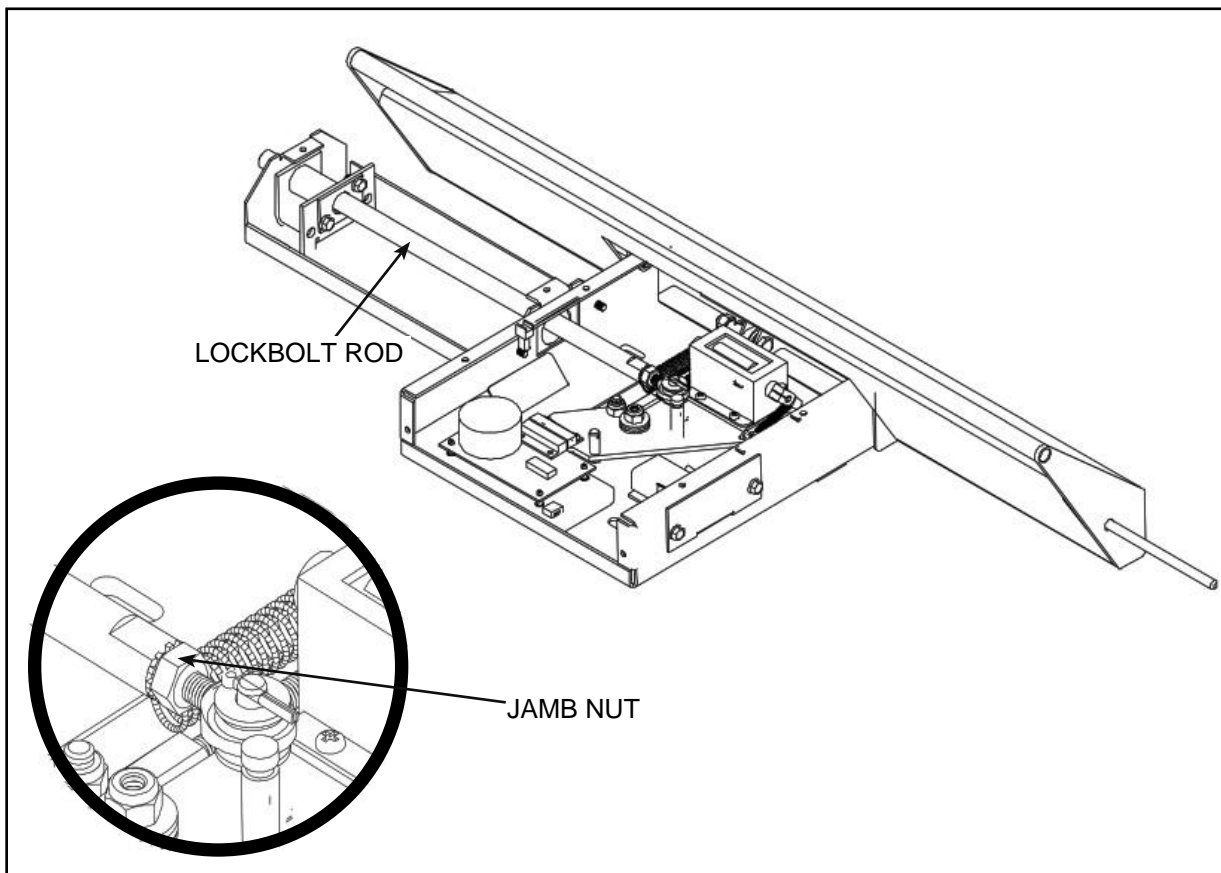

FIGURE 5
7. Keeping the door closed, check the distance between the end of the lock bolt and the door jamb stop. To ensure the maximum extension into the latch (installed later), the end of the lock bolt should just clear the jamb stop - the clearance should be approximately 1/16" but no more than 1/8". If necessary, adjust the extension of the lock bolt rod by loosening the jamb nut at the opposite end of the lock bolt rod - inside the Sur-Lock™ housing - and rotate the lock rod as needed to obtain the proper clearance. Tighten the jamb nut securely (See Figure 5)!